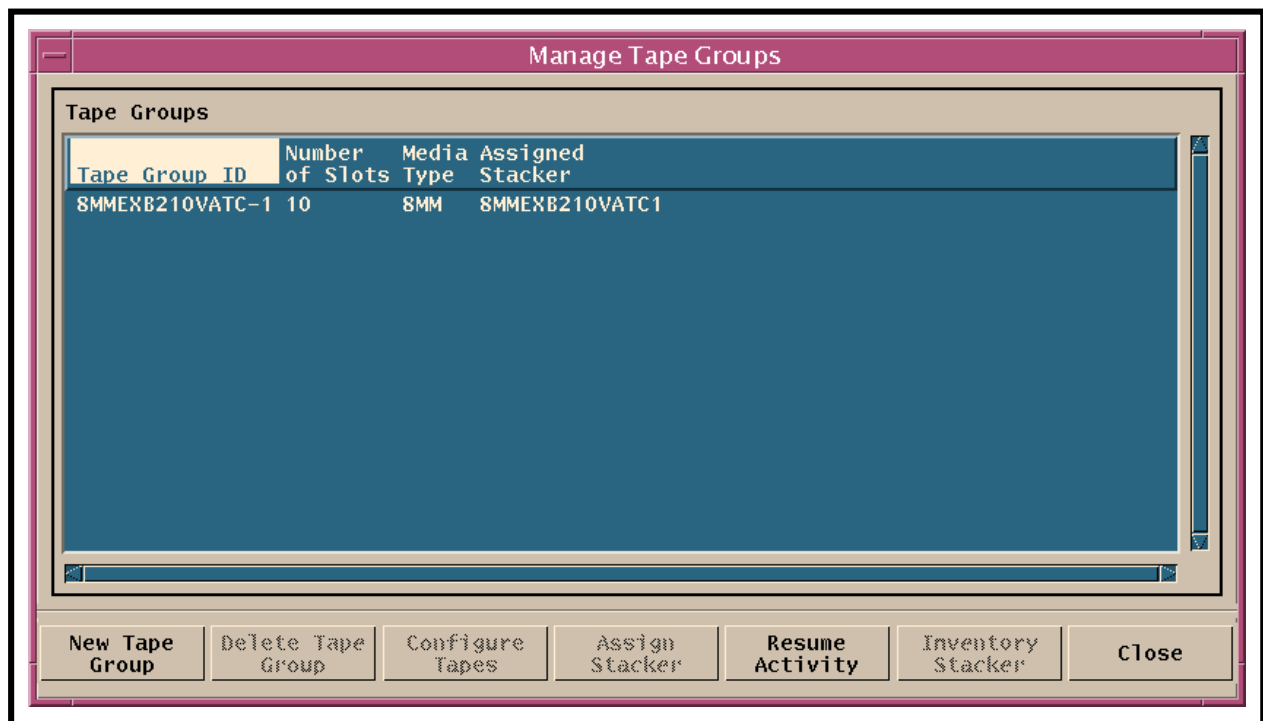

Figure 20. Manage Tape Groups Window (Storage Management Control GUI)
- The **Manage Tape Groups** window (Figure 20) is displayed.
- 8 Highlight the tape group to be modified by clicking on the name of the tape group in the **Manage Tape Groups** window (Figure 20).